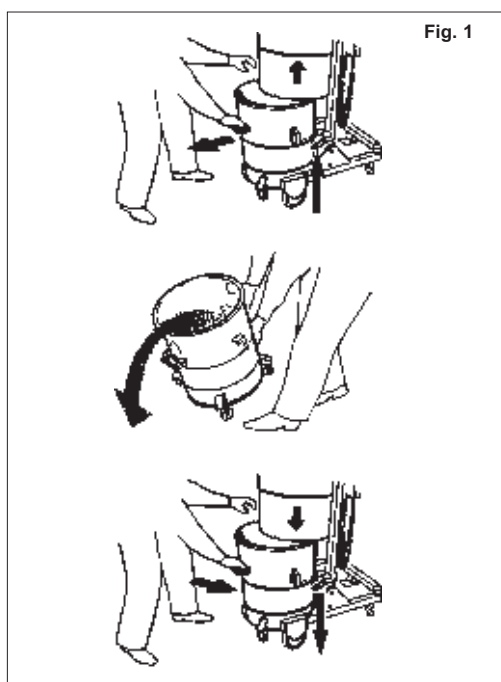

Fig. 1
4.2 Emptying the container (Fig. 1)